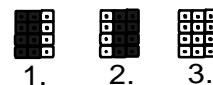

Fig. 10: DTMF Receiver –
11. **JP3 – JP6** – Jumpers for connection of DTMF circuits to buses. There are four DTMF circuits on the extension module that are connected according to the Fig. 10